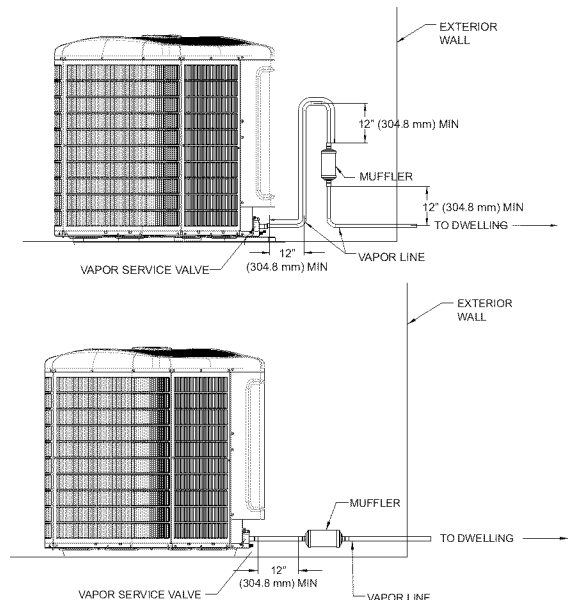

Fig. 4 - Muffler Installation
- Muffler may be installed in the vertical or the horizontal direction, maintaining at least 12 in. (304.8 mm) straight pipe length from the OD unit (See Fig 4).